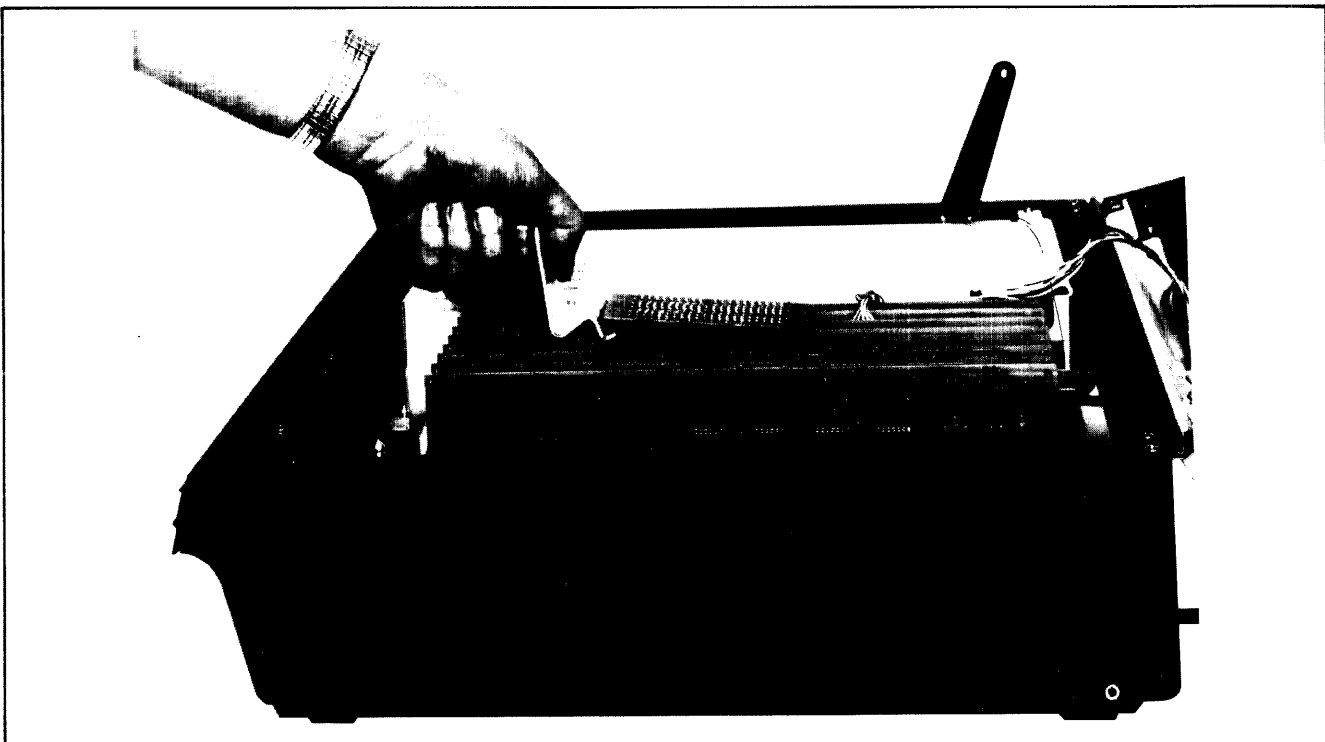

Figure 1-5. Top Plane Assembly Removal
- c. Insert connector removal tool under Top Plane Assembly as shown in figure 1-5.
- b. Insert connector removal tool under Top Plane Assembly as shown in figure 1-5 and remove Top Plane Assembly by pressing down on connector removal tool handle.